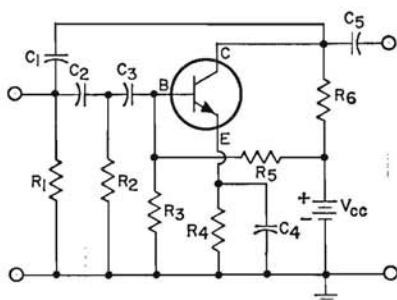

Figure 70. Transistor RC phase-shift oscillator.
A resistance-capacitance (RC) network is sometimes used in place of an inductance-capacitance network when phase shift is required in a transistor oscillator. In the phase-shift oscillator shown in Fig. 70, the RC network consists of three sections ( $C_1R_1$ ,  $C_2R_2$ , and  $C_3R_3$ ), each of which contributes a phase shift of 60 degrees at the frequency of oscillation. Because the capacitive reactance of the network increases or decreases at other frequencies, the 180-degree phase shift required for the common-emitter oscillator occurs only at one frequency; thus, the out-